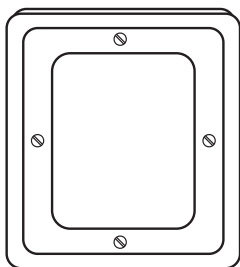

Figure 17. Battery Cover
1. Loosen the four captive screws on the left side of the unit and remove the battery compartment cover (Figure 17).